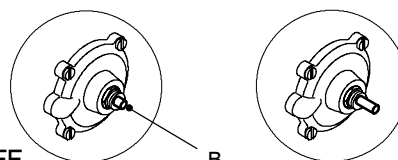

Fig. 12.2
- 3 Looking through the switch box verify the position of the lever B referring to Fig. 12.2.